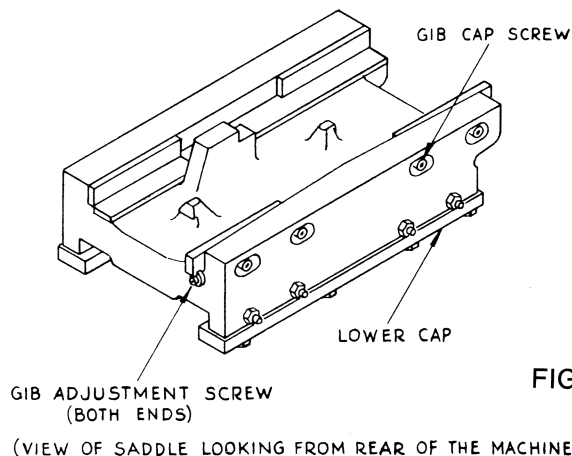

FIG. 6
3. After the machine has been in operation a few months it may be necessary to adjust the slide gibs. (Figure 6) The front gibs are not adjustable. There are two adjustable rear gibs. Loosen the cap screws for each gib on the back face of the saddle. The gib adjustment screws are set into each end of the saddle.